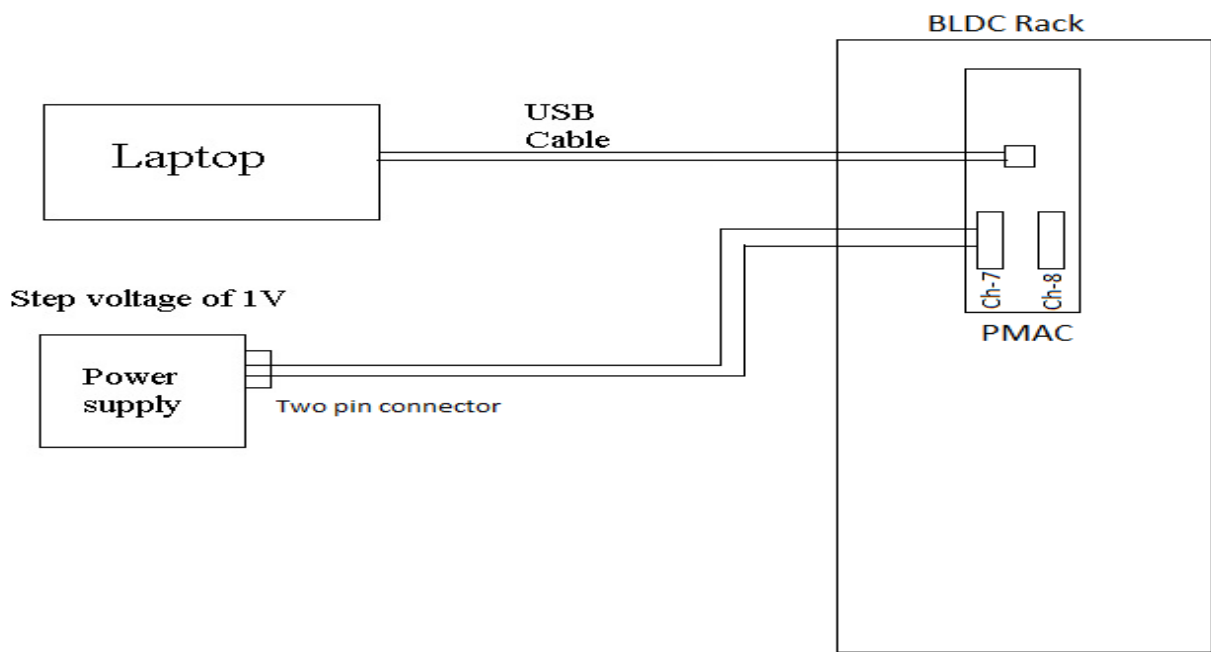

Figure35: Block diagram of step response test setup for BLDC system
1. Figure 35 below shows block diagram of setup used. Now put antenna in Manual mode.